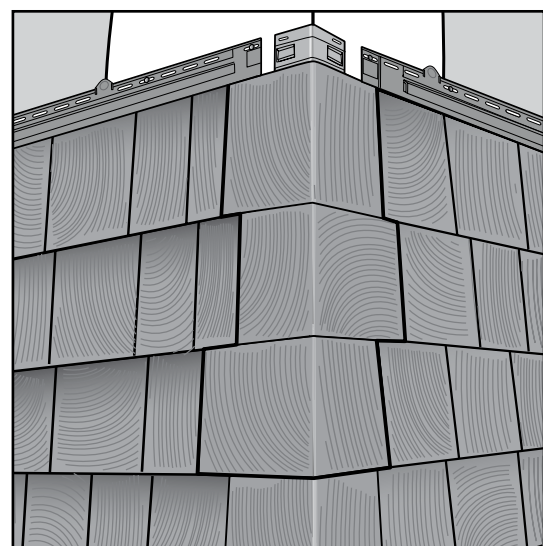

Figure 8
5. Continue installing the corner pieces as you move up the wall (*Figure 8*).